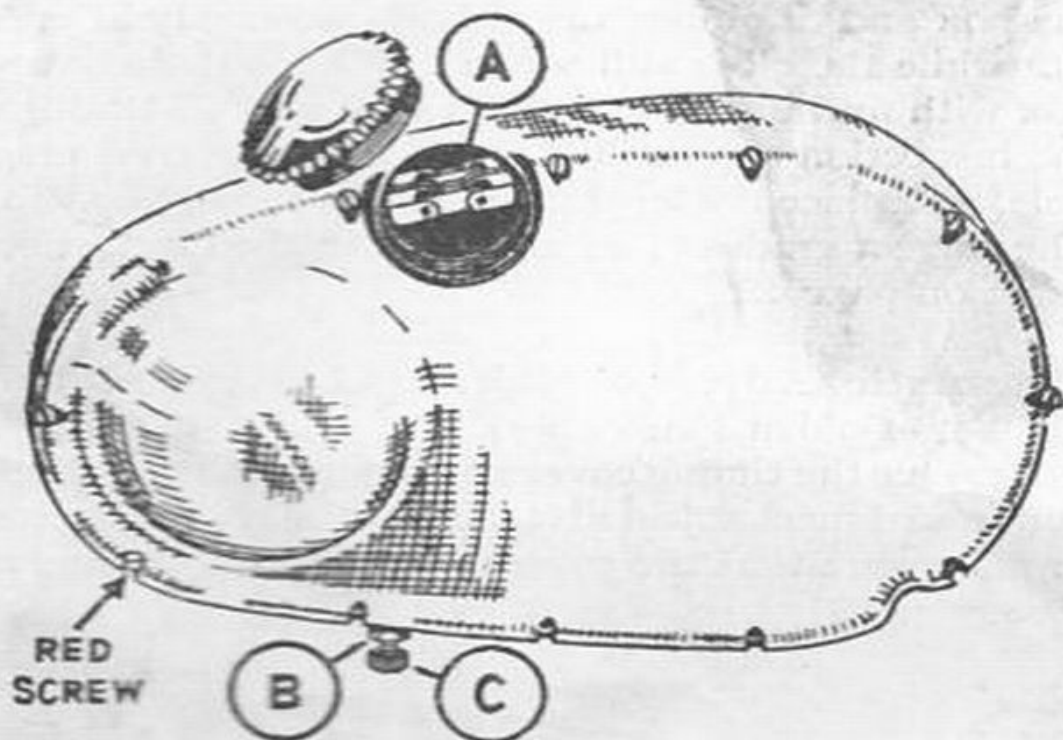

Fig. 6. Primary Chaincase (A10 G.F. Plunger model)
Check the primary chain tension, which should not exceed a total up-and-down movement of half an inch. Remove the chaincase filler cap *A* (Fig 6) for this purpose.
Removal of one of the cover fixing screws, Fig. 6 (identified by its red painted head) exposes a hole which determines the level of oil in the case. Remove the screw and top-up with engine oil if necessary, through the filler orifice *A*. The machine should be on level ground when the check is being carried out, and the approximate capacity of the case is 4 fl. oz. (100 c.c.).
*Remove the filler cap A (Fig. 6).* Through the orifice the chain can be seen and its tension checked, with the fingers. It is not necessary to remove the outer half of the case.